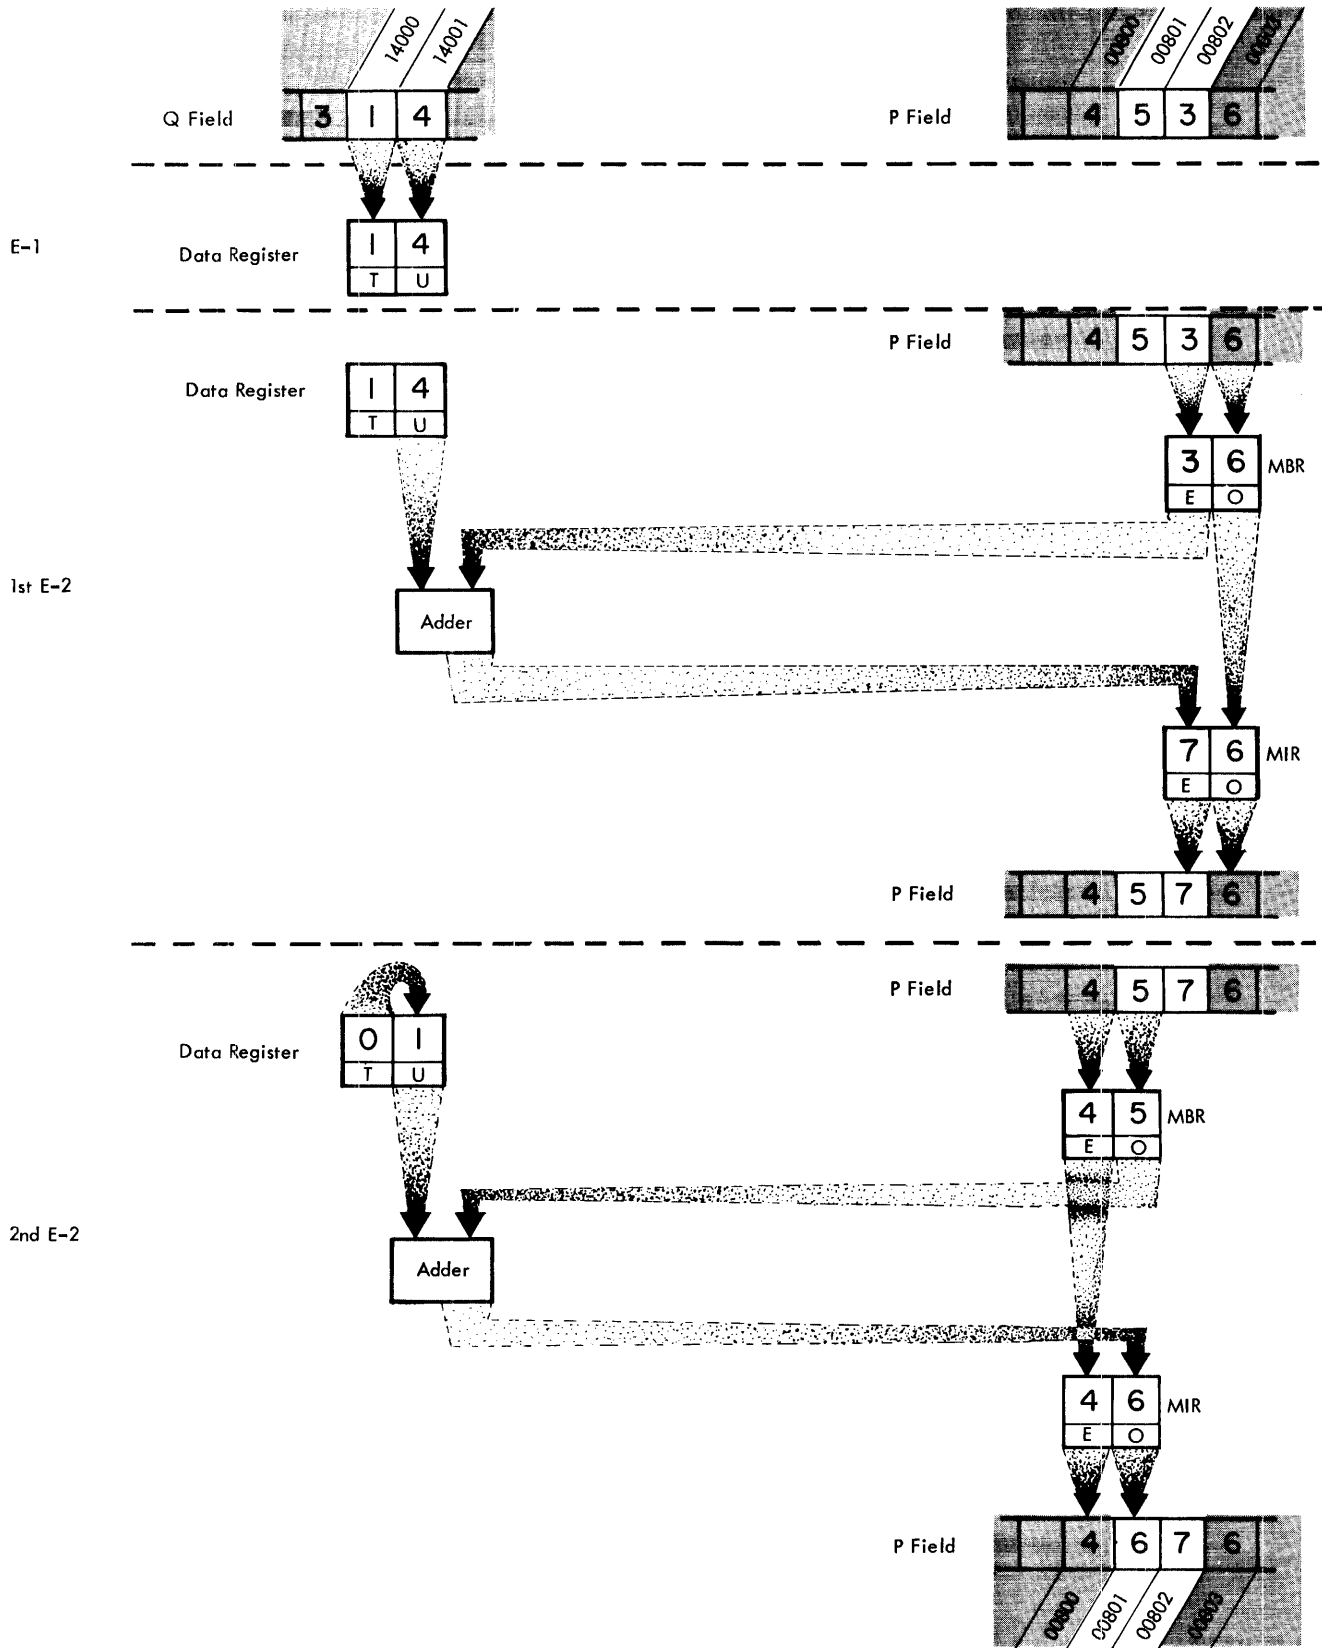

Figure 84. Data Flow – E Cycles
Data flow during the E cycles of an add instruction is illustrated in Figure 84. The Q field is in core storage positions 14000 and 14001; the P field is in positions 00801 and 00802.
**2 DIG CNTRL (6, C).** The 2-Digit Control light, is turned on during the E-1 cycle to indicate that the following E-2 cycle is the "1st" E-2 cycle. (Refer to Figure 84.) This means that the Q address was an odd-numbered address and therefore both digits read into the Data Register will be used.